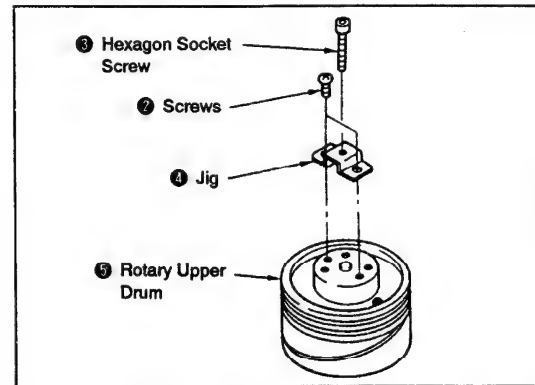

Fig. 3-23.
- 3) Mount the jig ④ (Ref. No. J-7) with the two supplied screws ②, then screw the attached hexagon socket screws ③ to the jig ④. The rotary upper drum ⑤ will move upward and come off (See Fig. 3-23).